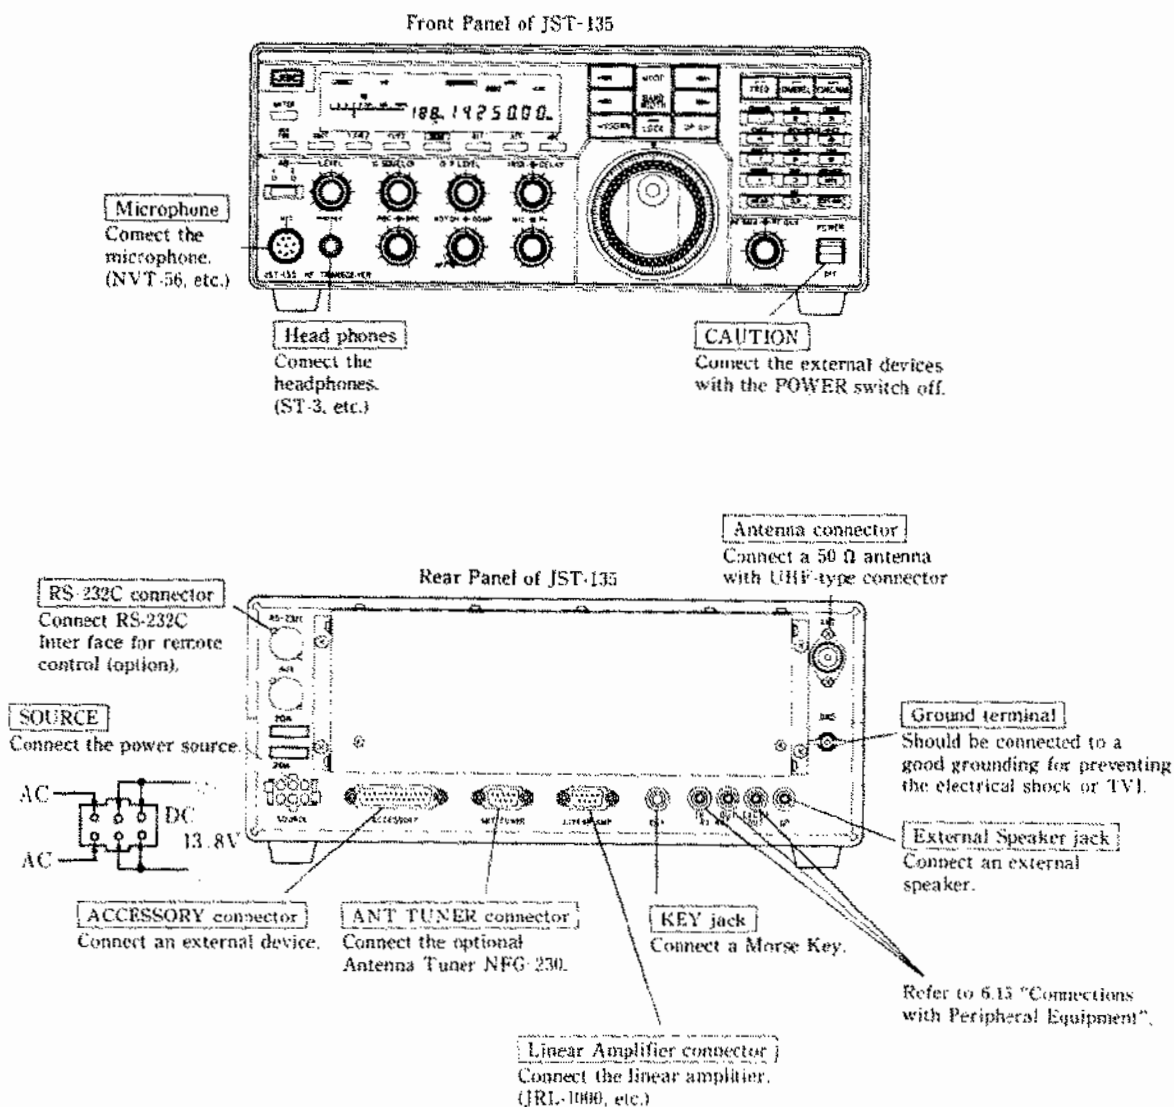

Fig. 3.1 Basic Connections of the Front and Rear Panels
Make basic connections as shown in Fig. 3.1 with the POWER switch ① in the "OFF" position.